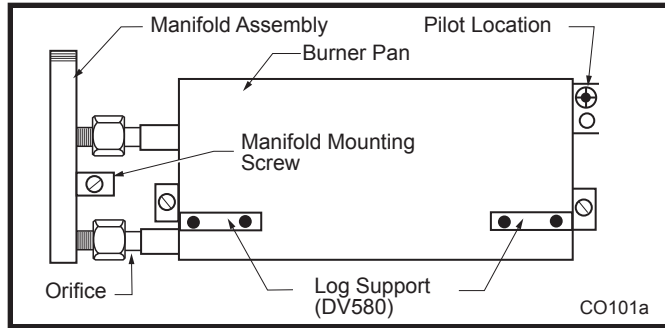

Fig. 69 Remove manifold assembly.
5. Remove manifold mounting screw. (Fig. 69)